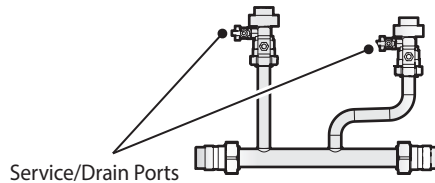

FIGURE 3. Available Ports on the NCB-H, NFC Series Primary Manifold
- Service and Drain ports are available on the service valves (see FIGURE 3).